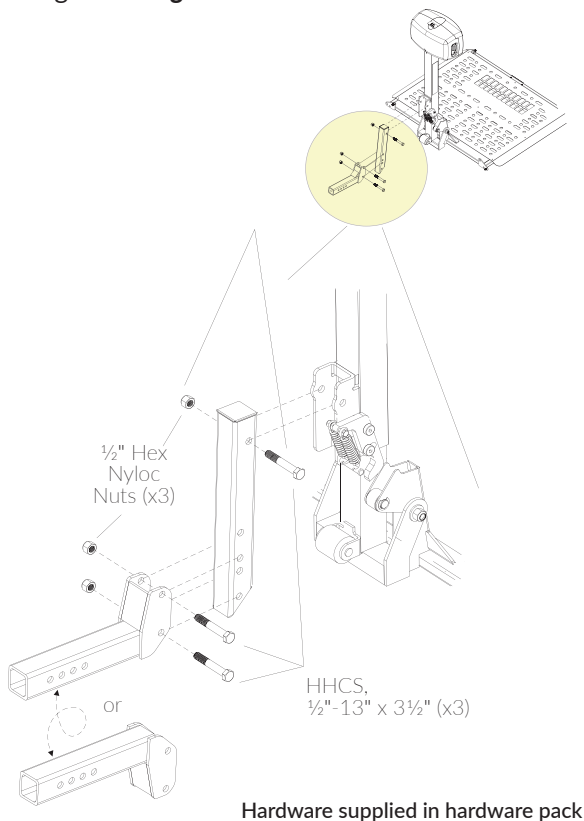

Figure 4-09
1. Attach the hitch adaptor to the hitch post, ensuring that the adaptor is properly oriented with the post according to the application's hitch height. **See Figure 4-09.**